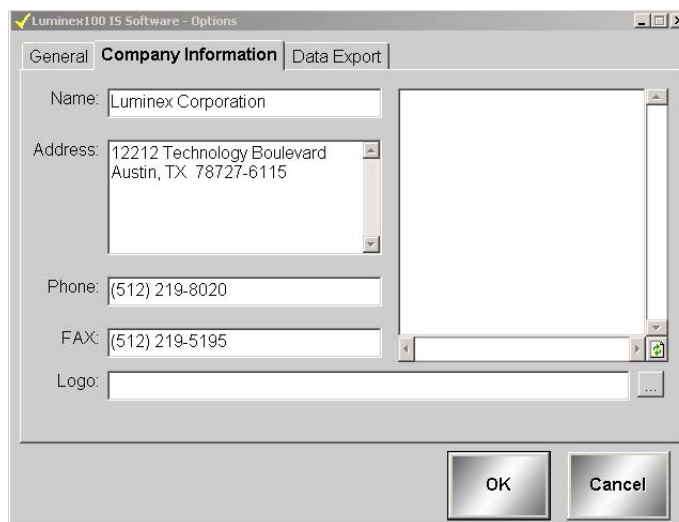

Figure 5-5 Options Dialog Box—Company Information Tab
1. On the **Tools** menu, click **Options**, and then click the **Company Information** tab. See Figure 5-5.